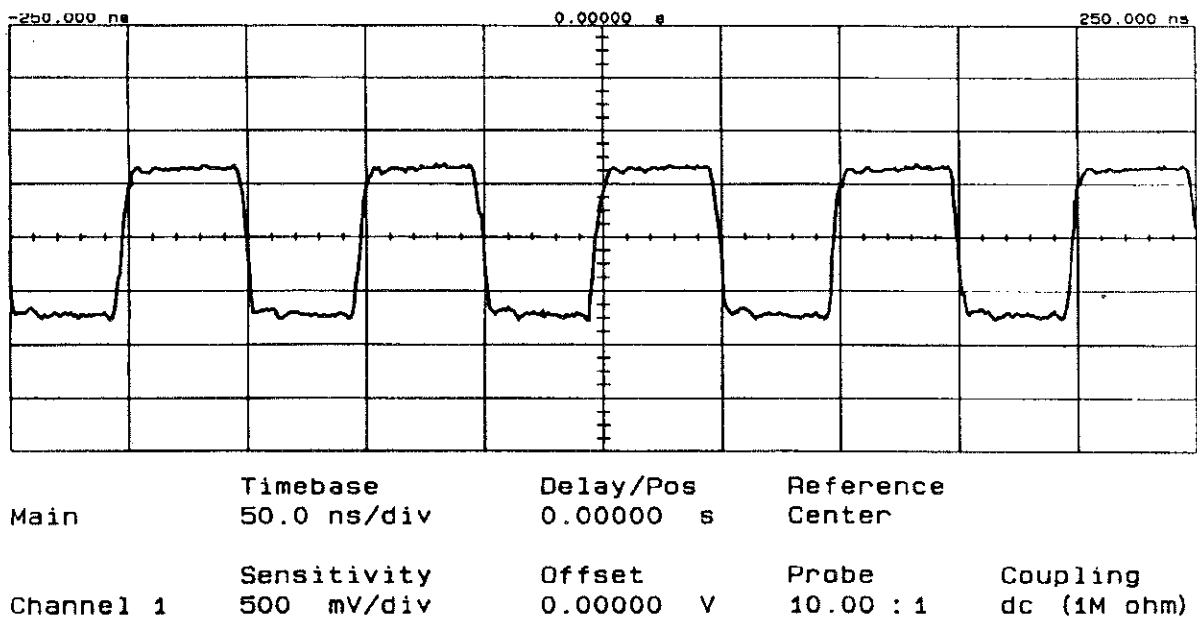

Figure 7-6. Waveforms at A2U2(2) and A2U14(2)
- C. Pins A2U2(2) and A2U14(2) are the input pins to Channel A and B DC Offset Hybrids respectively. Verify that a 10 MHz square wave (1 Vp-p nominal) is at each input (see *Figure 7-6*). If A2U2(2) [A2U14(4)] appears to be different, check the input paths from input connector A2J1 [A2J3]. If the input path is OK, check and replace the relays A2K1, K2, K3, and K4 [A2K5, K6, K7, and K8]. Diagnostic Test 4 will check the operation of all relays.